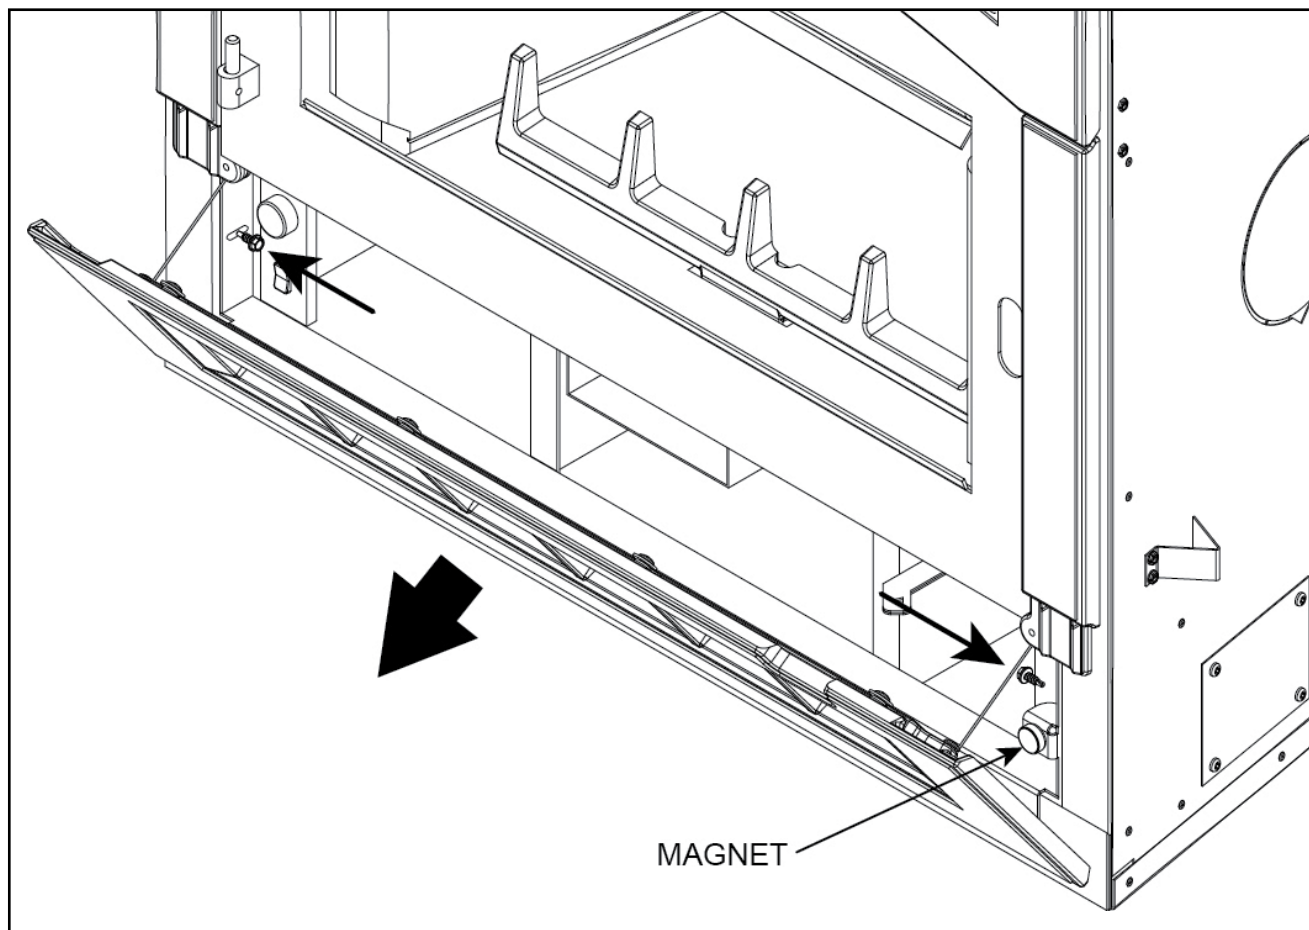

Figure 24
1. Open the Blower door. (Figure 24)